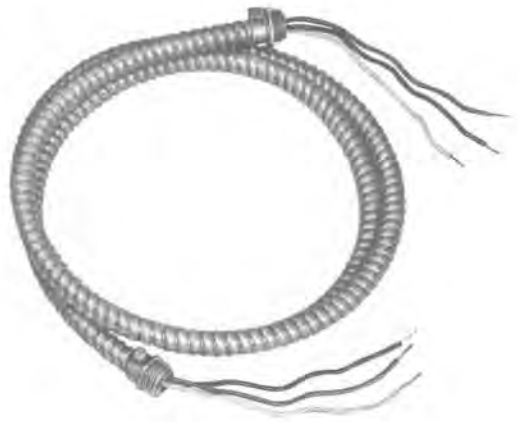

Fig. 5—KS-19425, List 24 Power Cable Assembly
- (b) **KS-19425, List 24 power cable assembly (Fig. 5):** Used to bring power from the KS-19426, List 17 circuit breaker box to the electrical receptacle located above the ceiling.